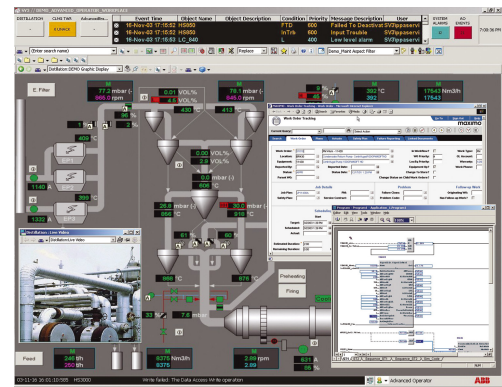

Figure 9. Integrated data for informed decision-making
- **Integrated Data for Informed Decision-Making:** ABB extends the automation reach by integrating information from a wide range of ABB applications, other automation systems, and business systems into System 800xA on common displays. This single window provides users a much broader view of the facility from which to make more informed decisions (Figure 9).